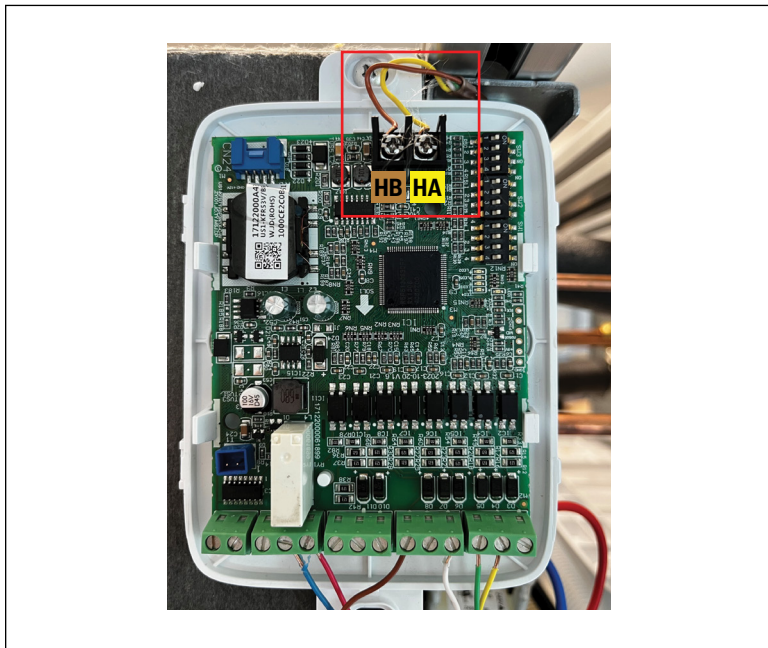
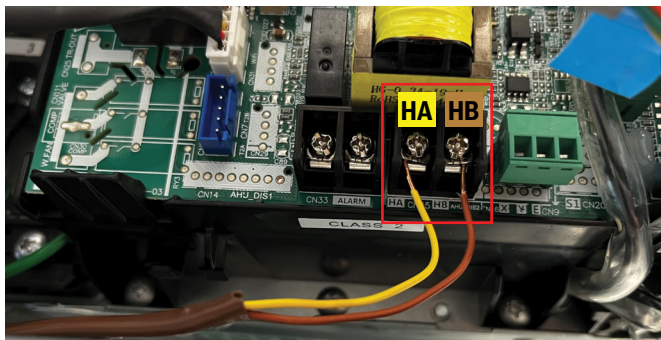

Figure 9 24V Mini-Box Board
Figure 10 IDU Board
1. Connect 24V mini-interface HA/HB terminals (Figure 9) to the HA/HB terminals of the IDU (Figure 10). HA/HB do not have polarity.